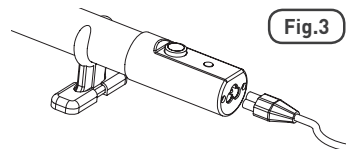

Fig.3
- Before installing the heater it is recommended that the power cable is attached by pushing it fully into the heaters power cable socket [Fig.3].